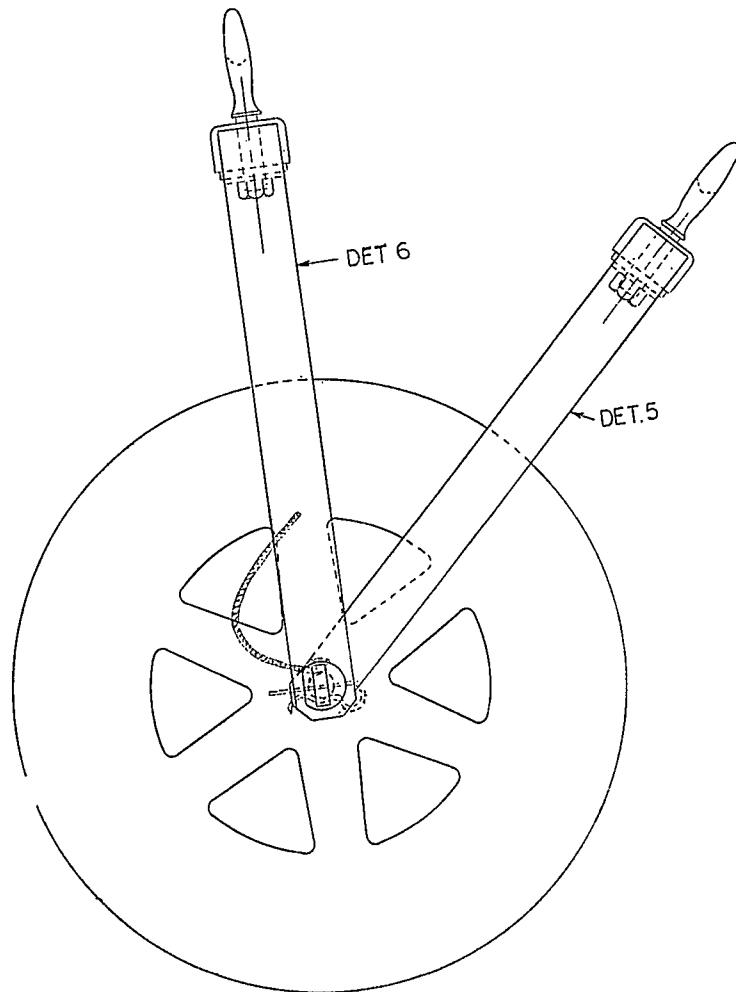

FIG. 13 DETS. 5 AND 6 TWIN YOKE (PAR. 3.53)
3.53 Details 5 and 6 sheaves, equipped with a twin yoke may be used at horizontal turns where there are no framing bars available and conditions are such that temporary bars cannot be installed. The twin yoke frames should be fastened with R-2849 or R-2118 straps to any available structure with the sheaves centered over the intersection. See Figure 13.